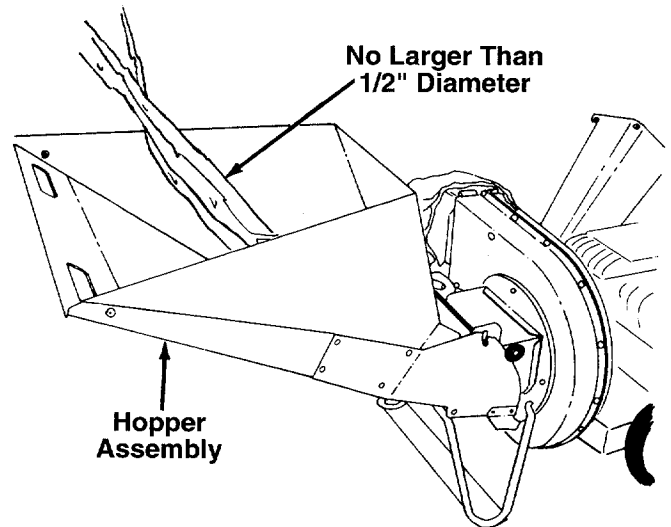

FIGURE 8.
3. Grasp starter handle (see figure 8) and pull rope out slowly until engine reaches start of compression cycle (rope will pull slightly harder at this point). Let the rope rewind slowly.
1. Leaves and small branches up to 1/2" diameter can be fed into the hopper when it is in the raised position. See figure 8. If it becomes necessary to push material into the shredder, use a small diameter stick—NOT YOUR HANDS. The stick cannot exceed 1/2" in diameter so it will be ground up if it gets into the impeller assembly.